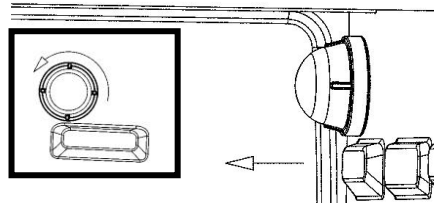

Fig 18
2. Carefully unscrew the glass cover (figs. 18 & 19) and place to one side.